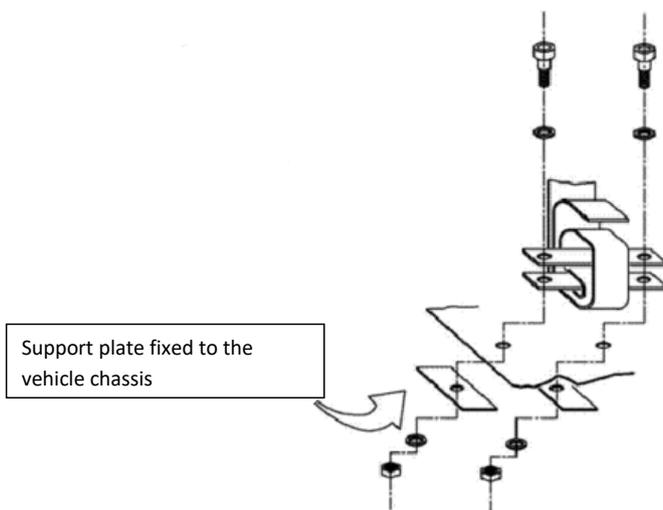

Figure 3 - Crotch straps fixing system
- 3) Crotch straps fixing system: see Figure 3